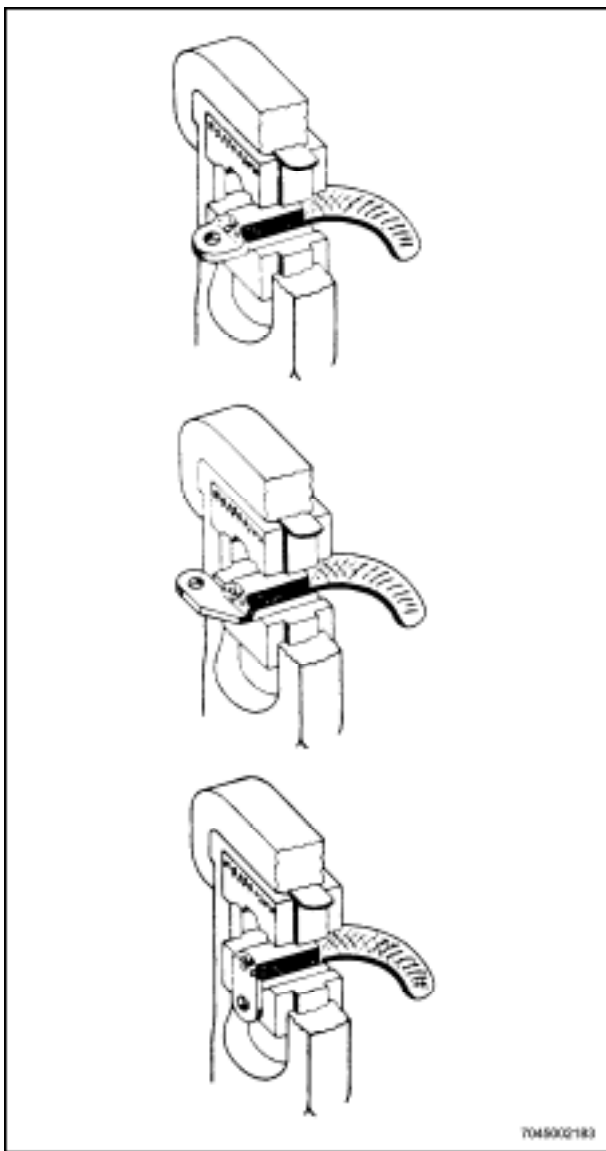

Figure 6-7 Positioning Aluminium Terminal Lugs in Die Nests
- g. Insert assembly into the die and position as shown in Figure 6-7.
32. Splice large aluminium wires sizes No. 8 through No. 4/0 with splice MS25439. Use the MS25441 power tool with the correct dies from MS25442. Follow the same procedure as for aluminium terminal lugs outlined in paragraph 25, positioning the splice in the tool as shown in Figure 6-7. Crimp splice at both ends.